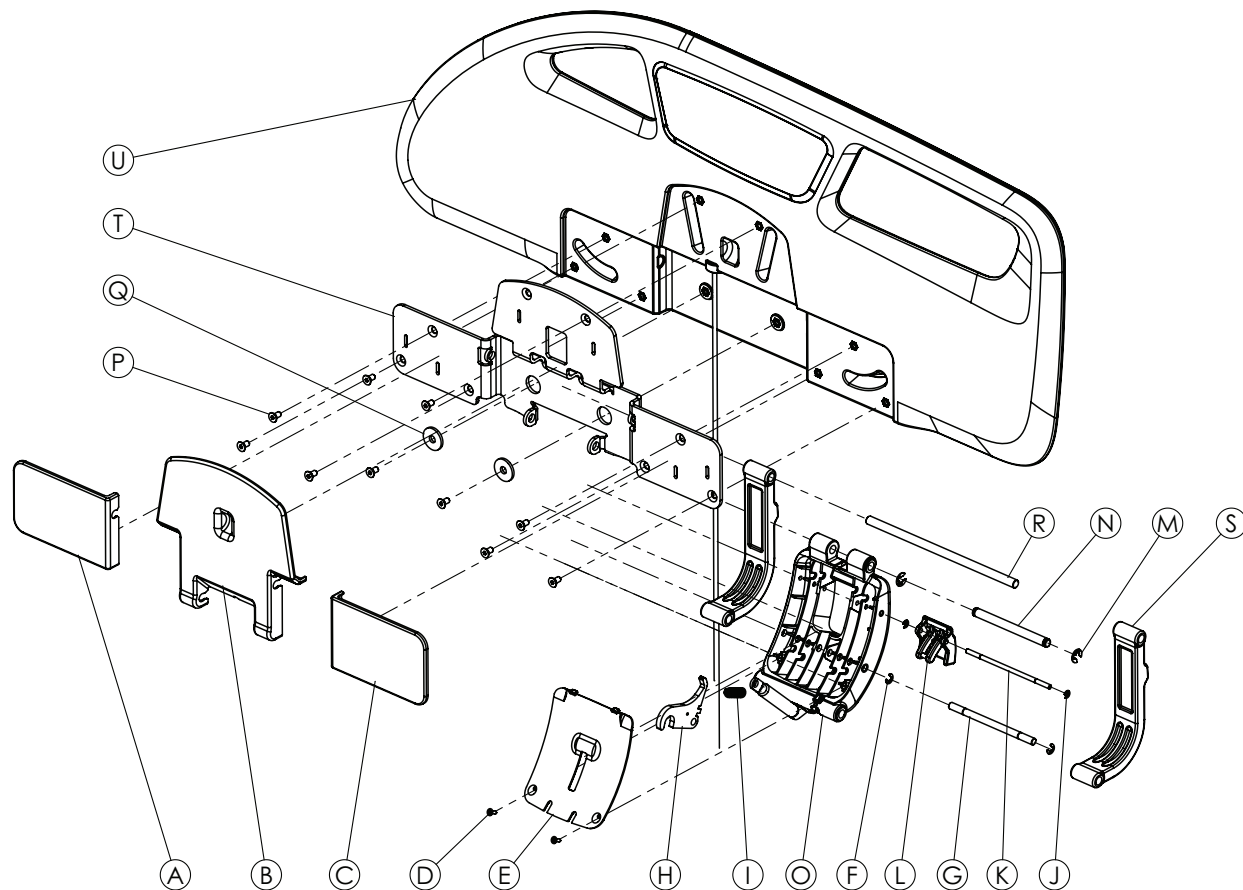

Figure 31 – Siderail hoop, head end assembly
9. Using a small slotted screwdriver, remove the plastic covers (A, B, C) that cover the bolt (P) and washers (Q) on the siderail (Figure 31). Save the covers.
10. Using a #2 Phillips screwdriver, remove the screws (D) that attach the main mechanism plastic cover (E) to main mechanism (O). Save the screws and plastic cover.
11. Using a small slotted screwdriver, remove the e-clip (F) that secures the pin (G) that connects the siderail lock laser sheet (H) to the main mechanism plastic. Remove and save the e-clip, pin, siderail lock laser sheet, and latching mechanism spring (I).
12. Using a small slotted screwdriver, remove the e-clip (J) that secures the pin (K) that connects the latching mechanism handle (L) to the main mechanism plastic. Remove and save the e-clip, pin, and latching mechanism handle.
13. Using a small slotted screwdriver, remove the e-clip (M) that secures the pin (N) to the siderail main mechanism. Remove and save the e-clip and pin.
14. Remove the siderail connection cable from the main mechanism. Save the main mechanism (O).
15. Using a #2 Phillips screwdriver, remove the bolts (P) and washers (Q) that attach the siderail cover sheet (T) to the siderail assembly (U). Save the bolts and washers.
16. Remove the pin that connects the aluminum curved legs (S) to the siderail cover sheet (U). Save the pin.
17. Remove and discard the siderail assembly (U).